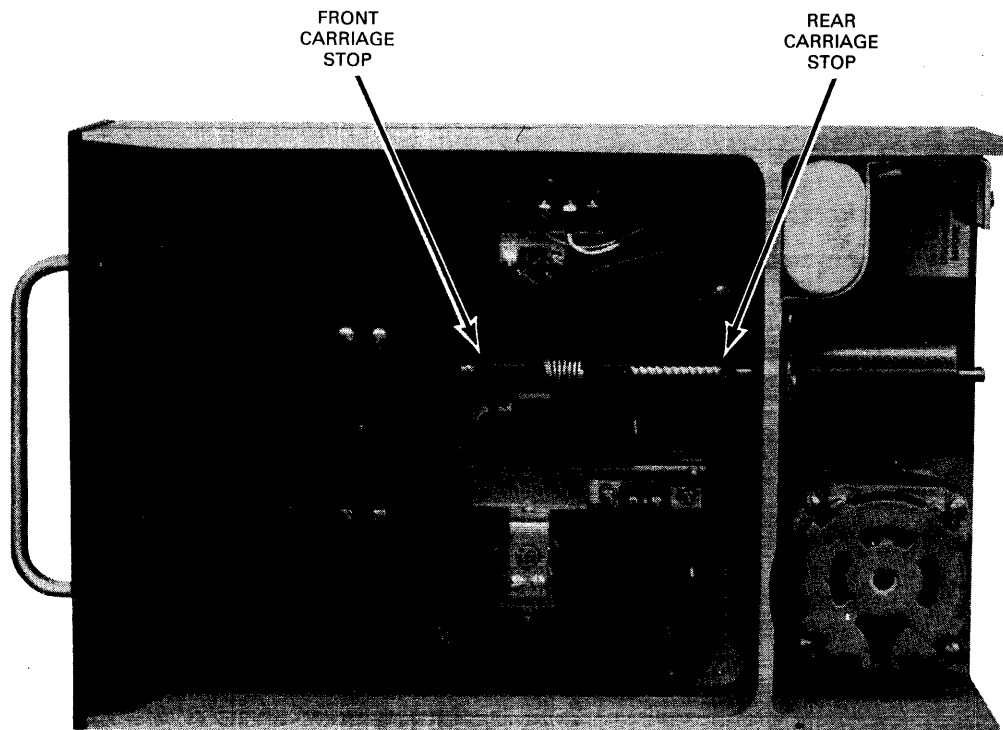

Figure 5-23. Carriage Stop Adjustment
3. Loosen rear carriage stop set screw (Figure 5-23).